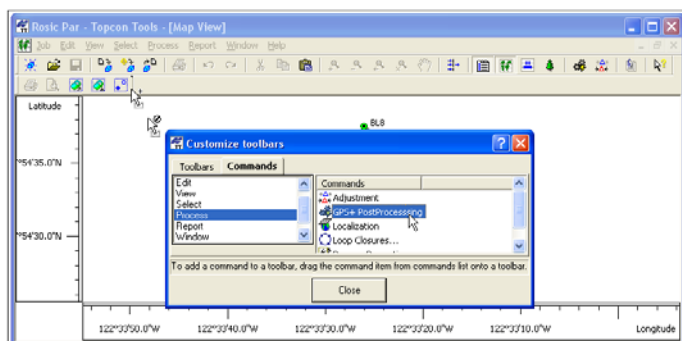

Figure 1-22. Adding Commands to Toolbar
4. To add a command, select the applicable menu, then click and drag the desired toolbar command to the empty toolbar (or to a location on any toolbar) on the main screen and release the mouse button (Figure 1-22 on page 1-22).